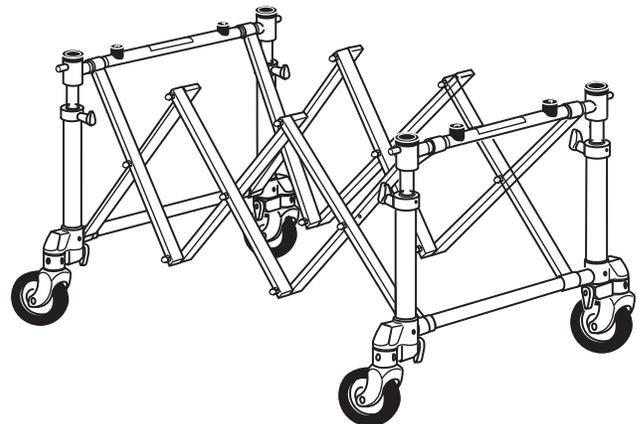

Figure 1 - Church Truck Partially Expanded
1. Open the church truck to a partially-expanded position as shown in Figure 1.